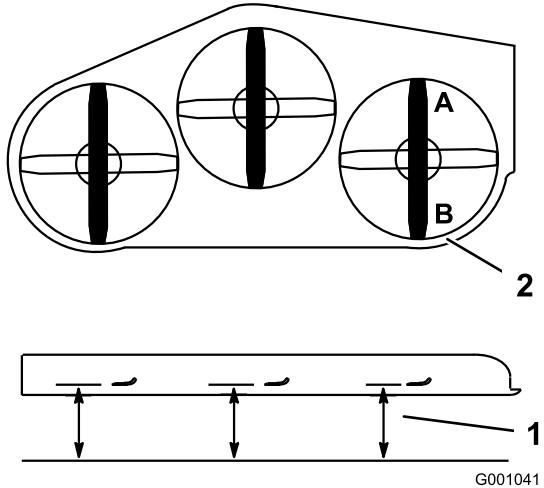

Figure 69
1. Position the **right** blade front-to-rear (Figure 69).
2. Measure the right blade at the **A** location, from a level surface to the cutting edge of the blade tip (Figure 69).
4. Measure the right blade at the **B** location, from a level surface to the cutting edge of the blade tip (Figure 69).
6. The mower blade should be a 1/4 to 3/8 inch (6 to 10 mm) lower at position **A** than at position **B** (Figure 69). If it is not correct, proceed to the following steps.